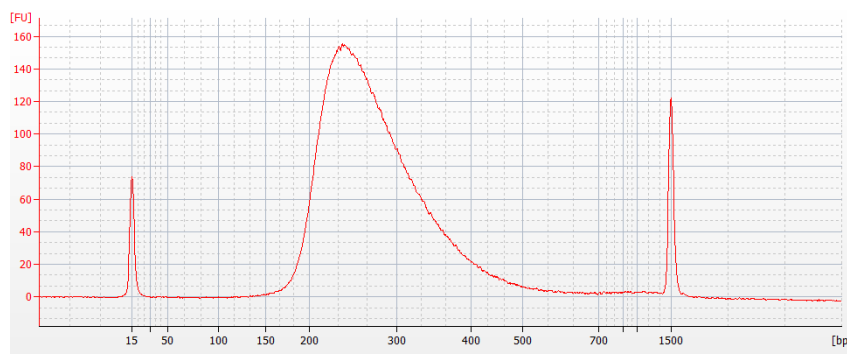

Figure 7 Analysis of amplified library DNA using a DNA 1000 Bioanalyzer assay.
- 3 Verify that the electropherogram shows a distribution with a DNA fragment size peak of approximately 225 to 275 bp. Determine the concentration of the library DNA by integrating under the peak. A sample electropherogram is shown in Figure 7.